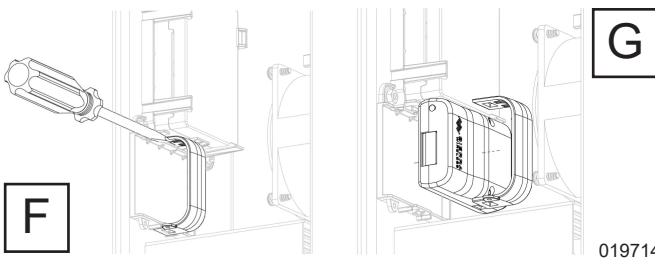

Figure 3. Install with Mounting Bracket
- b. Apply second Dual Lock to alignment marks on inverter left side wall (D).
- d. Align modem with the top and bottom alignment lines, press the modem until Dual Locks are fully engaged (E).
10. See Figure 3. If inverter includes a mounting bracket: